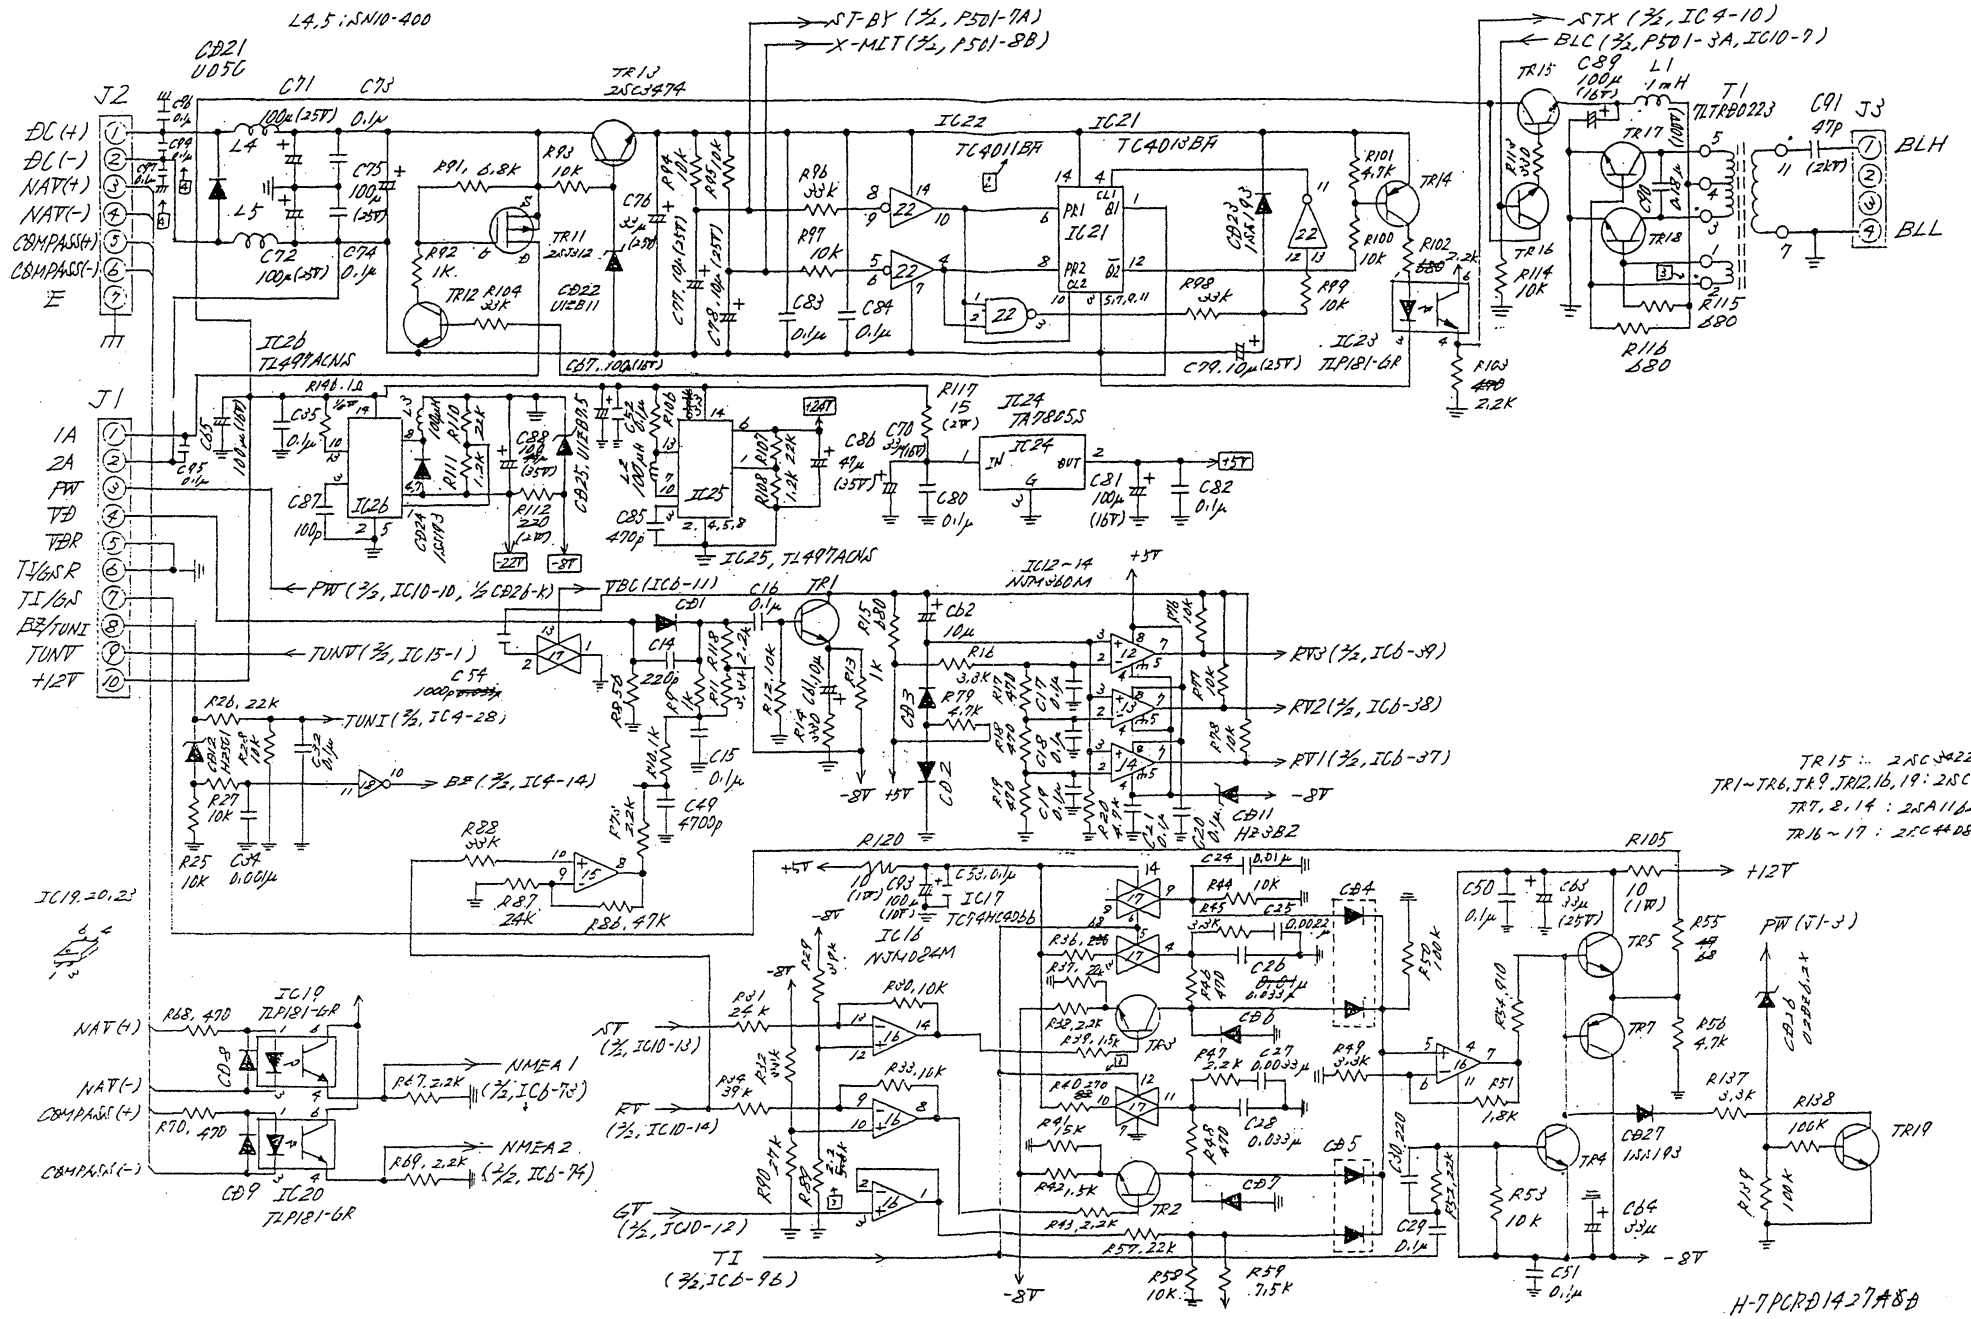

Fig. 108 CMC-970 Main Control (1/2)
- Fig. 108 CIRCUIT DRAWING OF MAIN CONTROL UNIT CMC-970 (1/2)